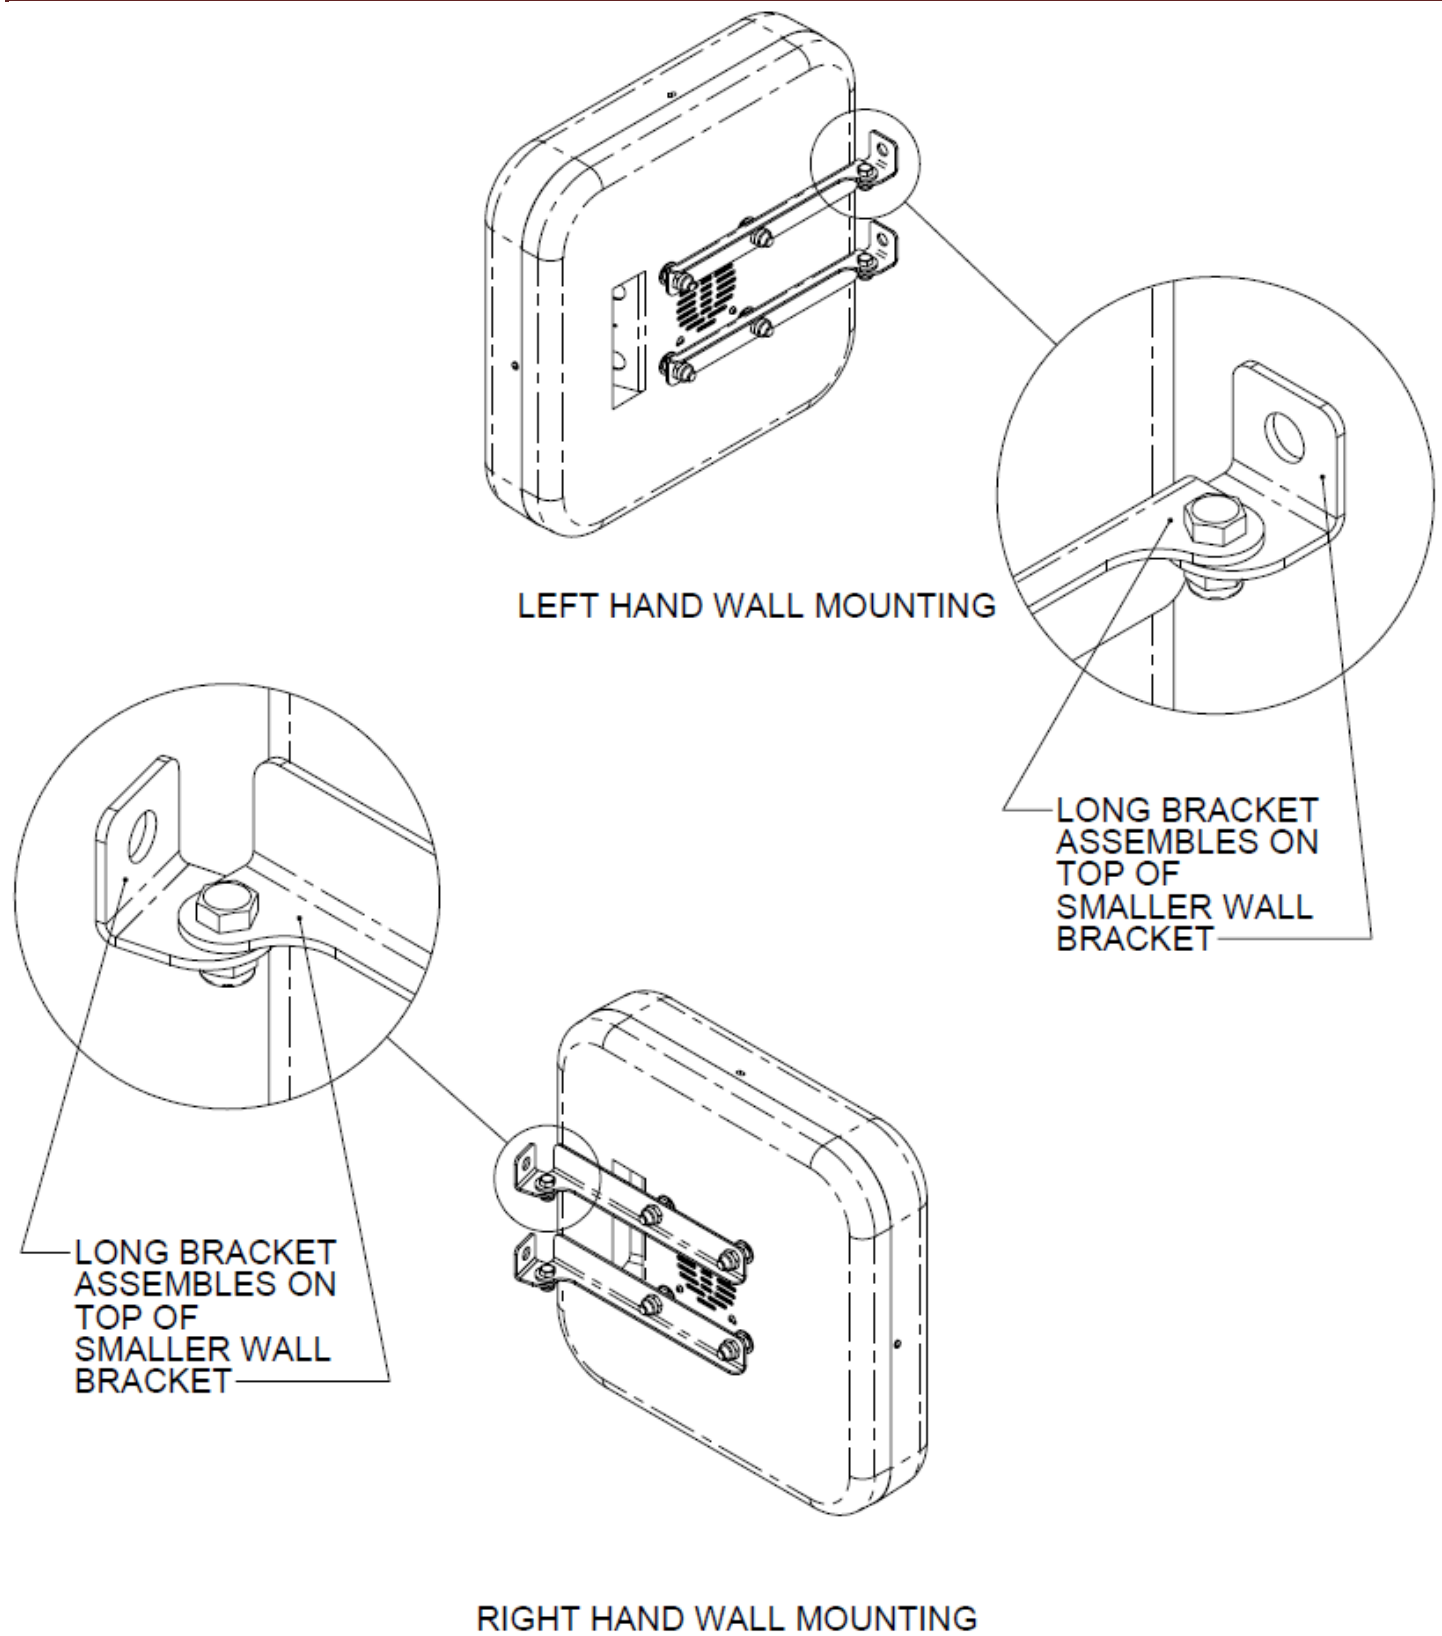

Figure 173 - Sign Wall Mount Brackets for Left and Right Wall Mounting
- The sign is built with the wall mount brackets oriented for mounting to the left side wall of the wash bay. If it is necessary to mount it to the right side wall, the brackets may be disassembled and flipped so that the mounting holes point in the proper direction for mounting to the right wall. When reassembling the brackets, always be sure the long brackets attached to the sign back are assembled on top of the smaller wall brackets, Figure 173.